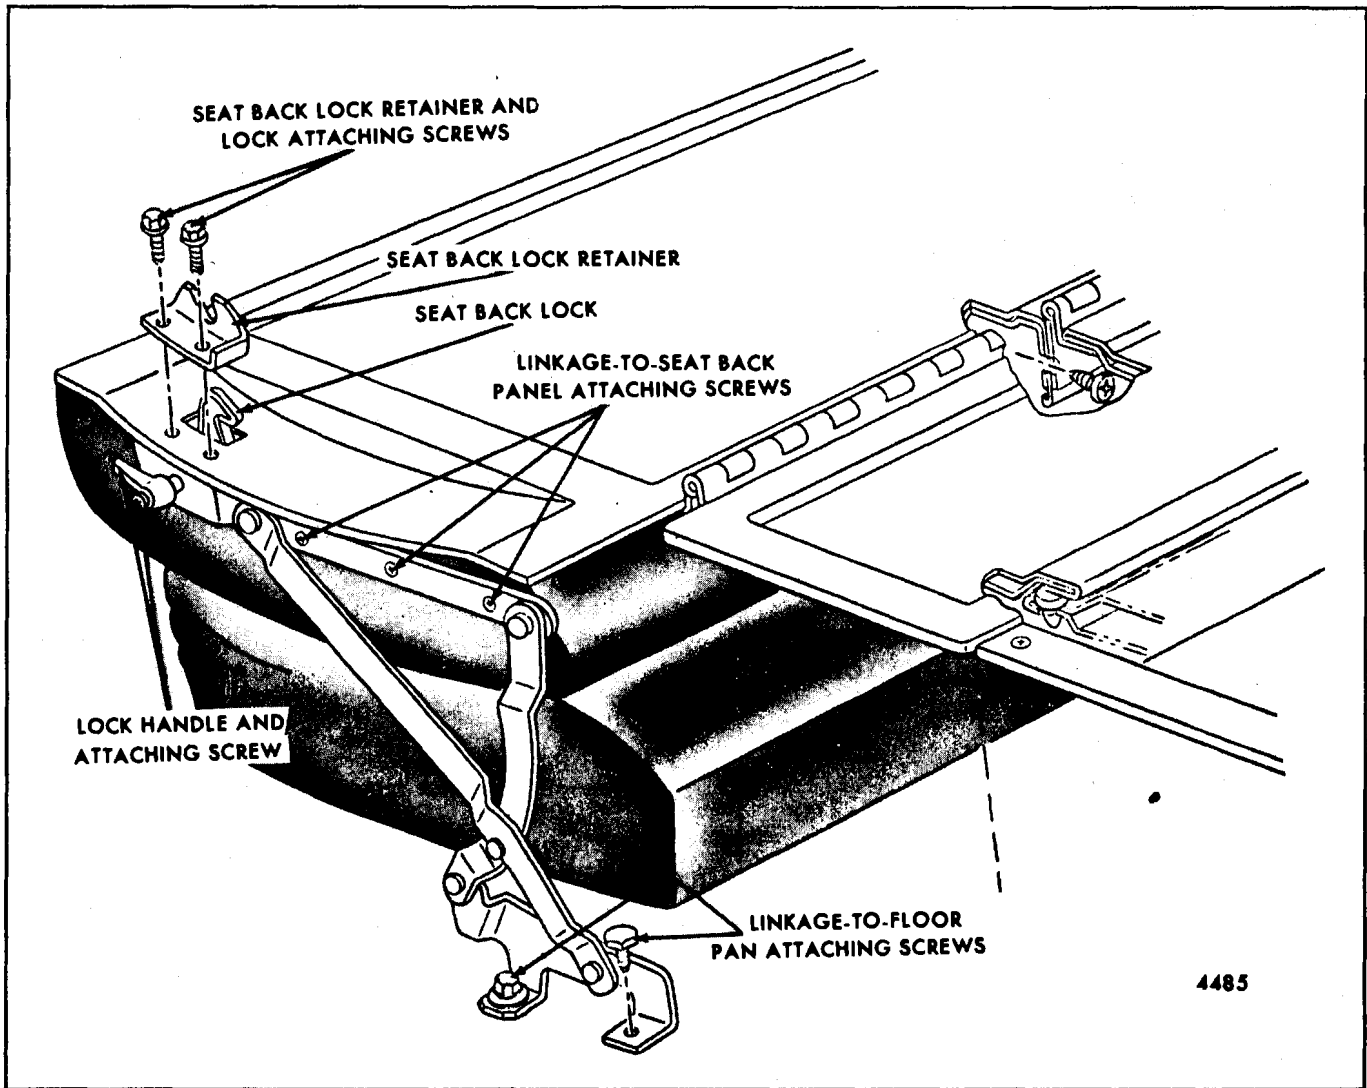

Fig. 14-89-Folding Second 2/3 Seat Back and Linkage - "B" Body Three-Seat Station Wagon
2. Remove linkage-to-seat back panel attaching screws (Fig. 14-89); then, remove linkage-to-floor pan attaching screws (Fig. 14-89) and remove linkage assembly.
5. Remove 2/3 seat back outer linkage-to-floor pan attaching bolts (Fig. 14-89); then, remove second 2/3 seat assembly, including linkages from body.